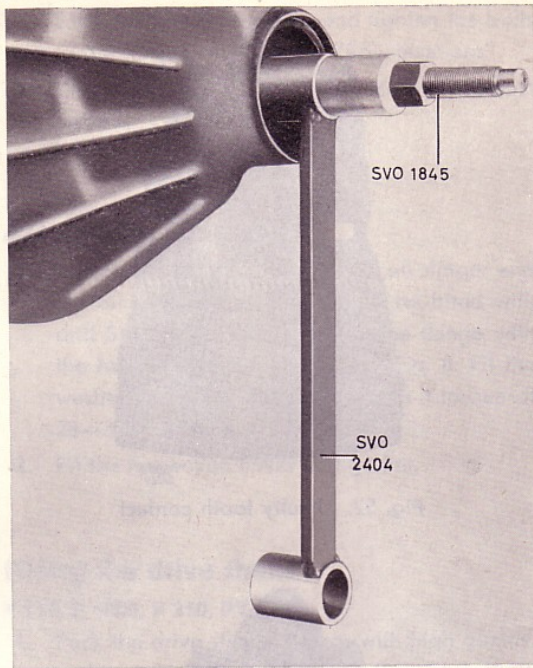

Fig. 48. Fitting the pinion
5. Fit the pinion in the carrier and mount three 0.75 mm (0.30") thick shims and the front pinion bearing. Fit tool SVO 2404 and press tool SVO 1845 on the front end of the pinion and tighten the pinion, see Fig. 48. If a nut remover is used when fitting the pinion, the pinion must be pressed forwards so that it does not strike against the bearing positions.